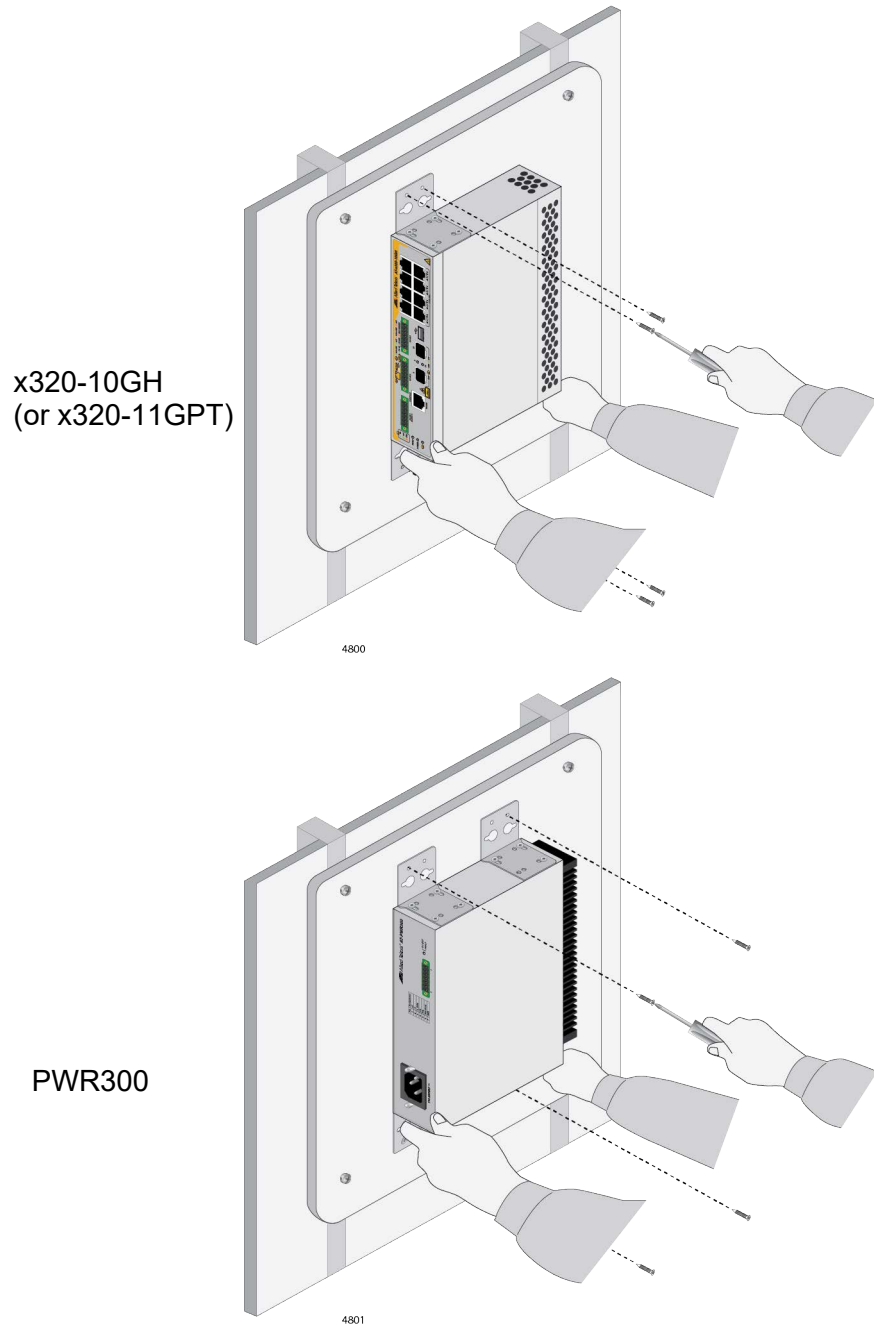

Figure 54. Securing the Device to the Plywood Base
- ❑ Position the device so that the front panel is facing left, right, or down. Refer to Figure 54 on page 112. Do not install it with the front panel up down.
3. After attaching the brackets, have another person hold the device on the plywood base on the wall while you secure it with the four M4x32mm screws included with the device. Refer to Figure 54.